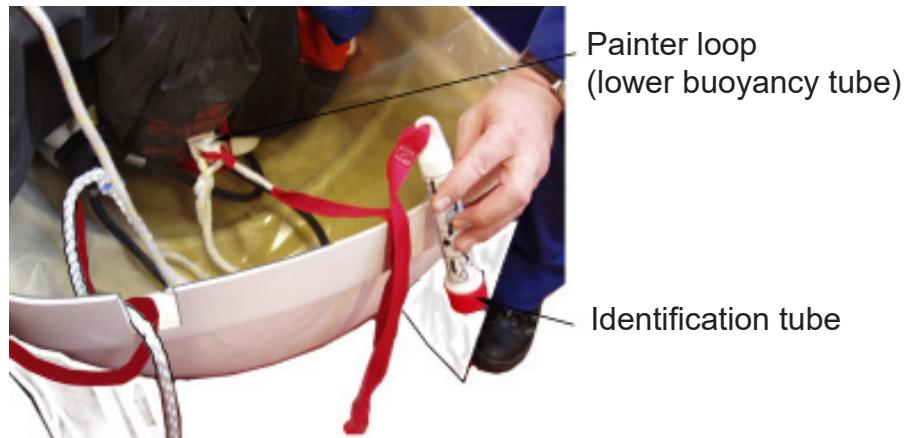

FIGURE 830
- 5.33 Locate the painter attachment patch on the lower buoyancy tube. Tie the liferaft identification tube, red ribbon to the patch. Refer to FIGURE 830. Use a bowline knot and tape the flying end.